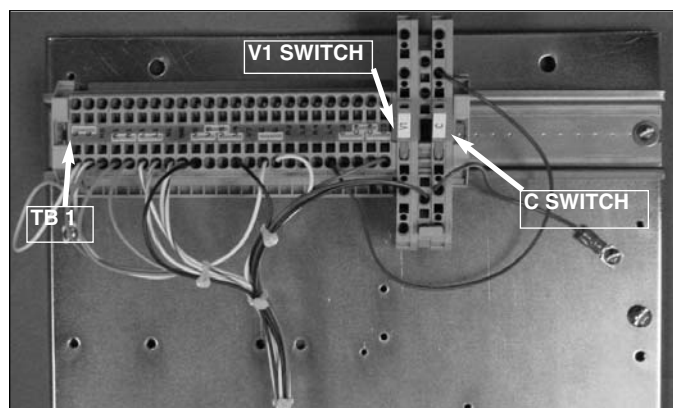

Figure 2.
2. On the control cabinet back panel locate the V switches and C switch on TB1. TB1 is the top terminal board on the back panel (See Figure 2).